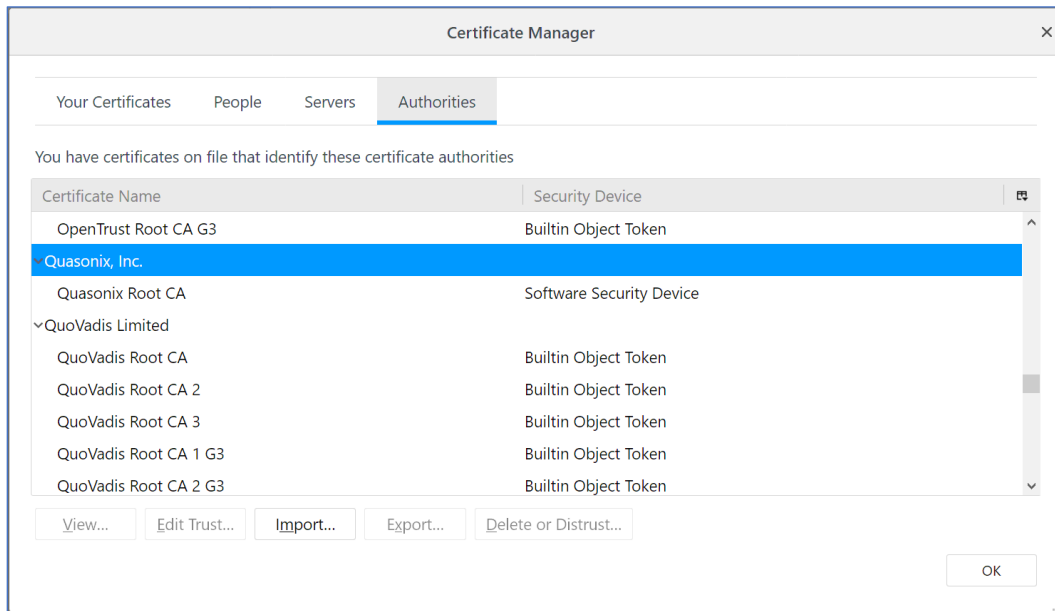

Figure 329: Firefox Certificate Manager with Quasonix Root CA Added
10. Scroll through the Certificate Names in the Authorities tab of the Certificate Manager to ensure "Quasonix, Inc." is in the list, as shown in Figure 329.